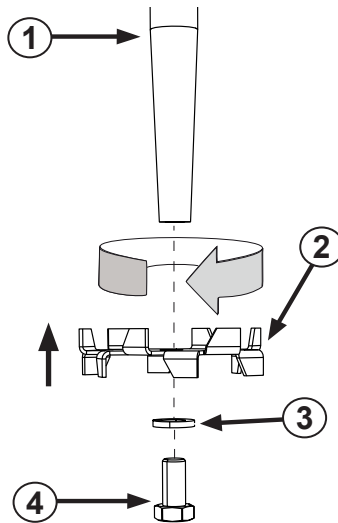

Figure 9. Dispersion Blade Impeller
**NOTE:** It is important to install the dispersion blade in a specific orientation, see rotation in Figure 9. Dispersion Blade Impeller below.